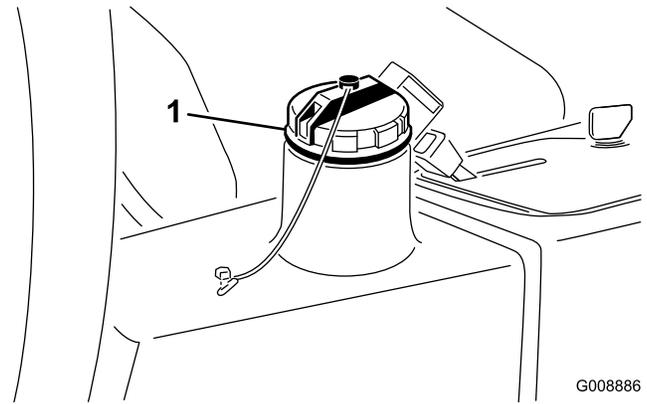

Figure 60
3. Fill the reservoir (Figure 60) with approximately 22.7 L (6 US gallons) of hydraulic fluid; refer to Checking the Hydraulic System (page 22).